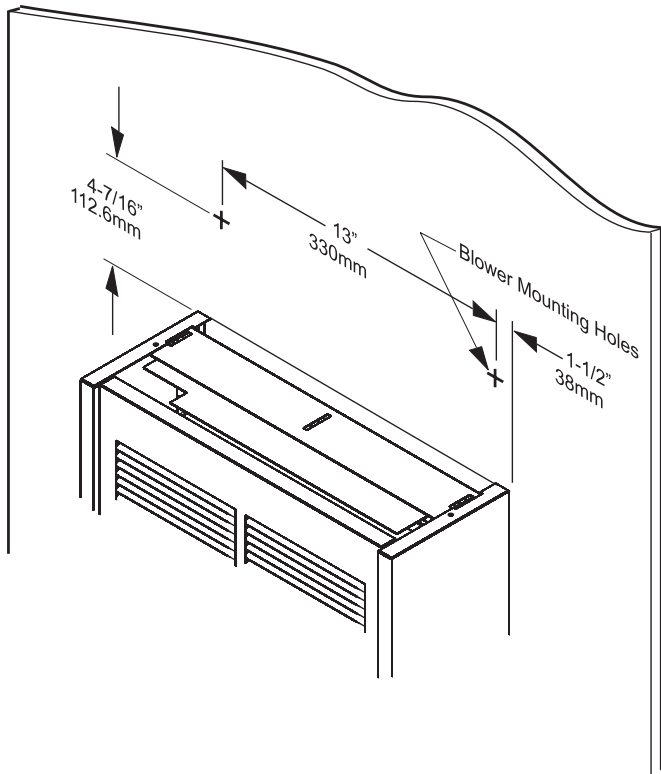

Figure 1
2. Refer to Figure 1 for measurements to locate two (2) mounting holes on wall surface above furnace